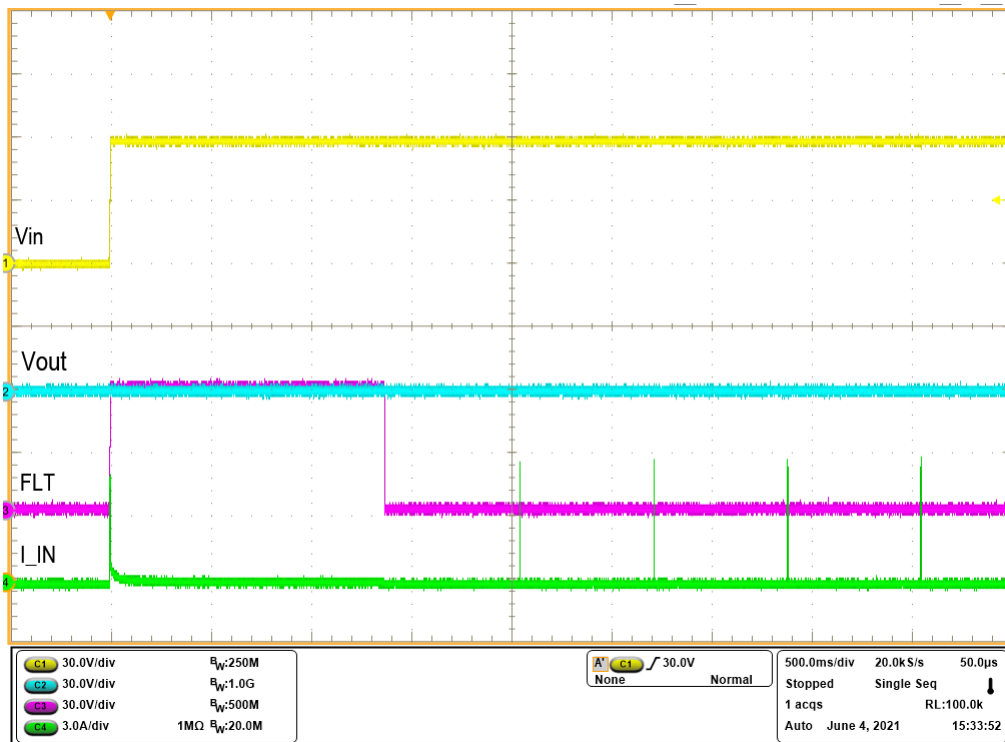

Figure 3-4. Start-Up With Short on Output
5. Verify the device behavior for startup into short as shown in Figure 3-4.